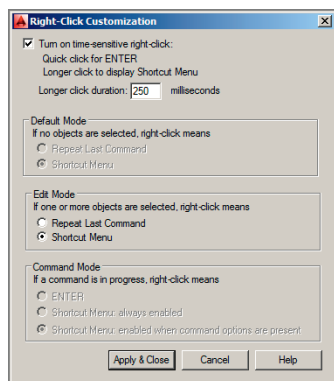

FIGURE 2.8 Turning on Time-Sensitive Right-Click for more efficient drawing
7. Open the Application menu and click the Options button at the bottom. Click the User Preferences tab in the Options dialog box that appears. Under the Windows Standard Behavior section, select Right-Click Customization and then, in the new dialog box, select Turn On Time-Sensitive Right-Click (see Figure 2.8). Click Apply & Close, and then click OK in the Options dialog box.